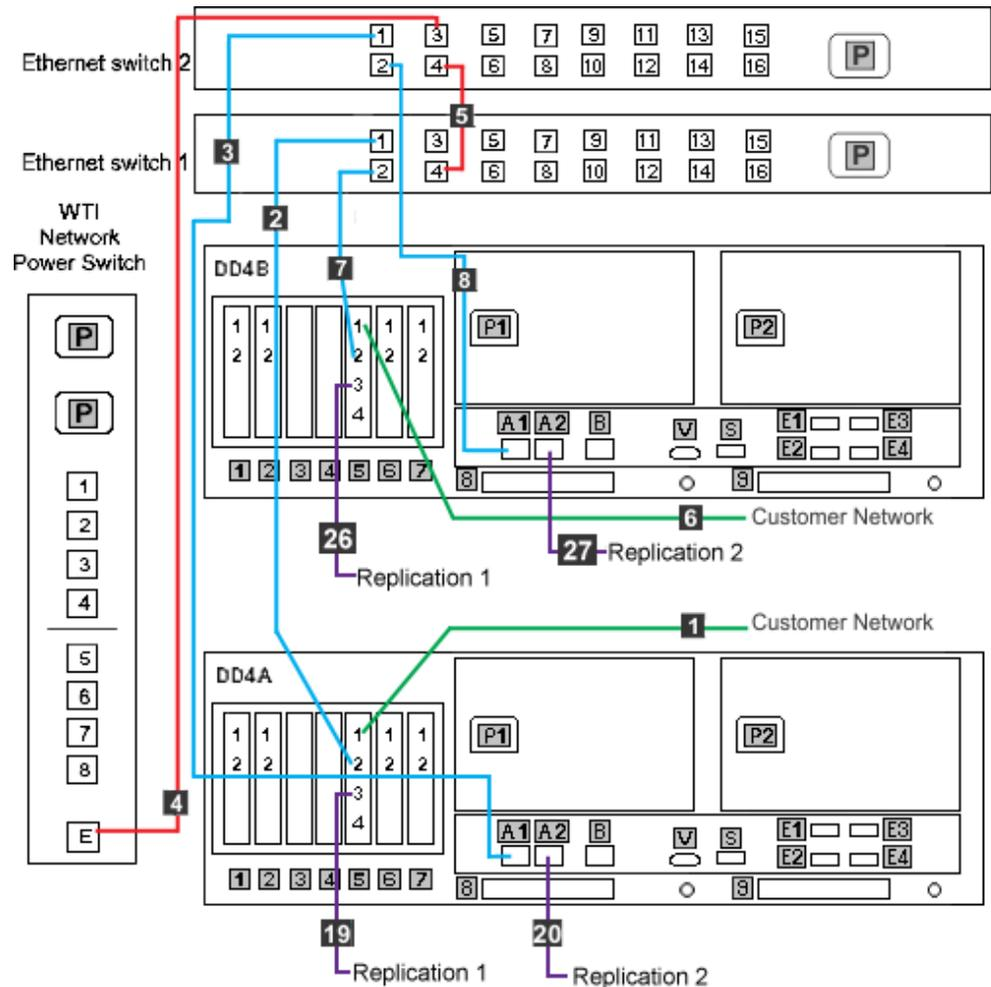
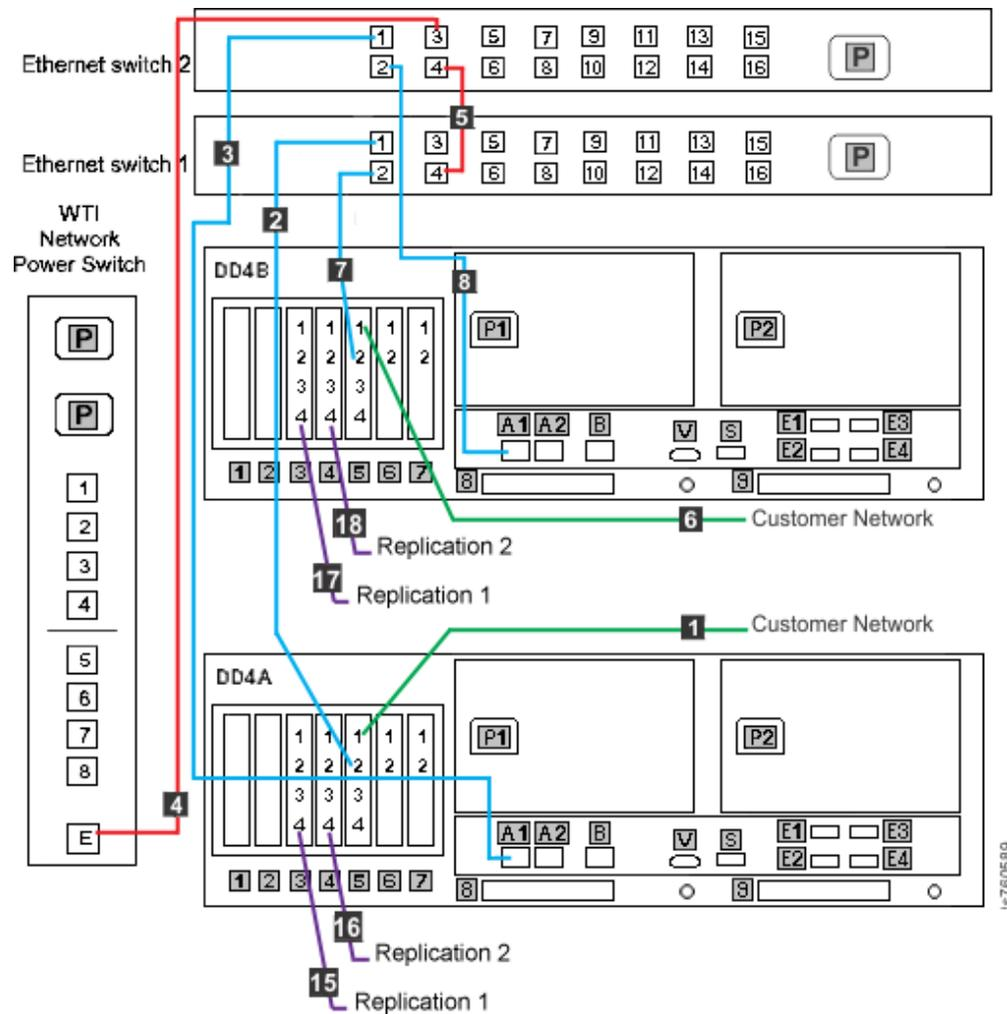

Figure 21. Clustered 1Gb Ethernet switch connections for VTL configuration
Figure 22. Clustered 1Gb Ethernet switch connections for OpenStorage configuration
- Depending upon the model of the TSSC and TSSC network switch being used, the port layout may differ from what is shown in Figure 21 on page 53 or Figure 22 on page 55. If so, make the cable connections according to the port number assignments specified in Table 18 on page 54 or Table 19 on page 55,
Depending upon the model of the network switch being used, the port layout may differ from what is shown in Figure 21. If so, label the cables according to the port number assignments specified in Table 18 on page 54, regardless of the position of the ports on the TSSC or the switch.
1. Label and connect Ethernet cables (Cat 5e or higher) according to Figure 21 on page 53 and Table 18.
Depending upon the model of the network switch being used, the port layout may differ from what is shown in Figure 22 on page 55. If so, label the cables according to the port number assignments specified in Table 19 on page 55, regardless of the position of the ports on the TSSC or the switch.
1. Label and connect Ethernet cables (Cat 5e or higher) according to Figure 22 on page 55 and Table 19 on page 55.